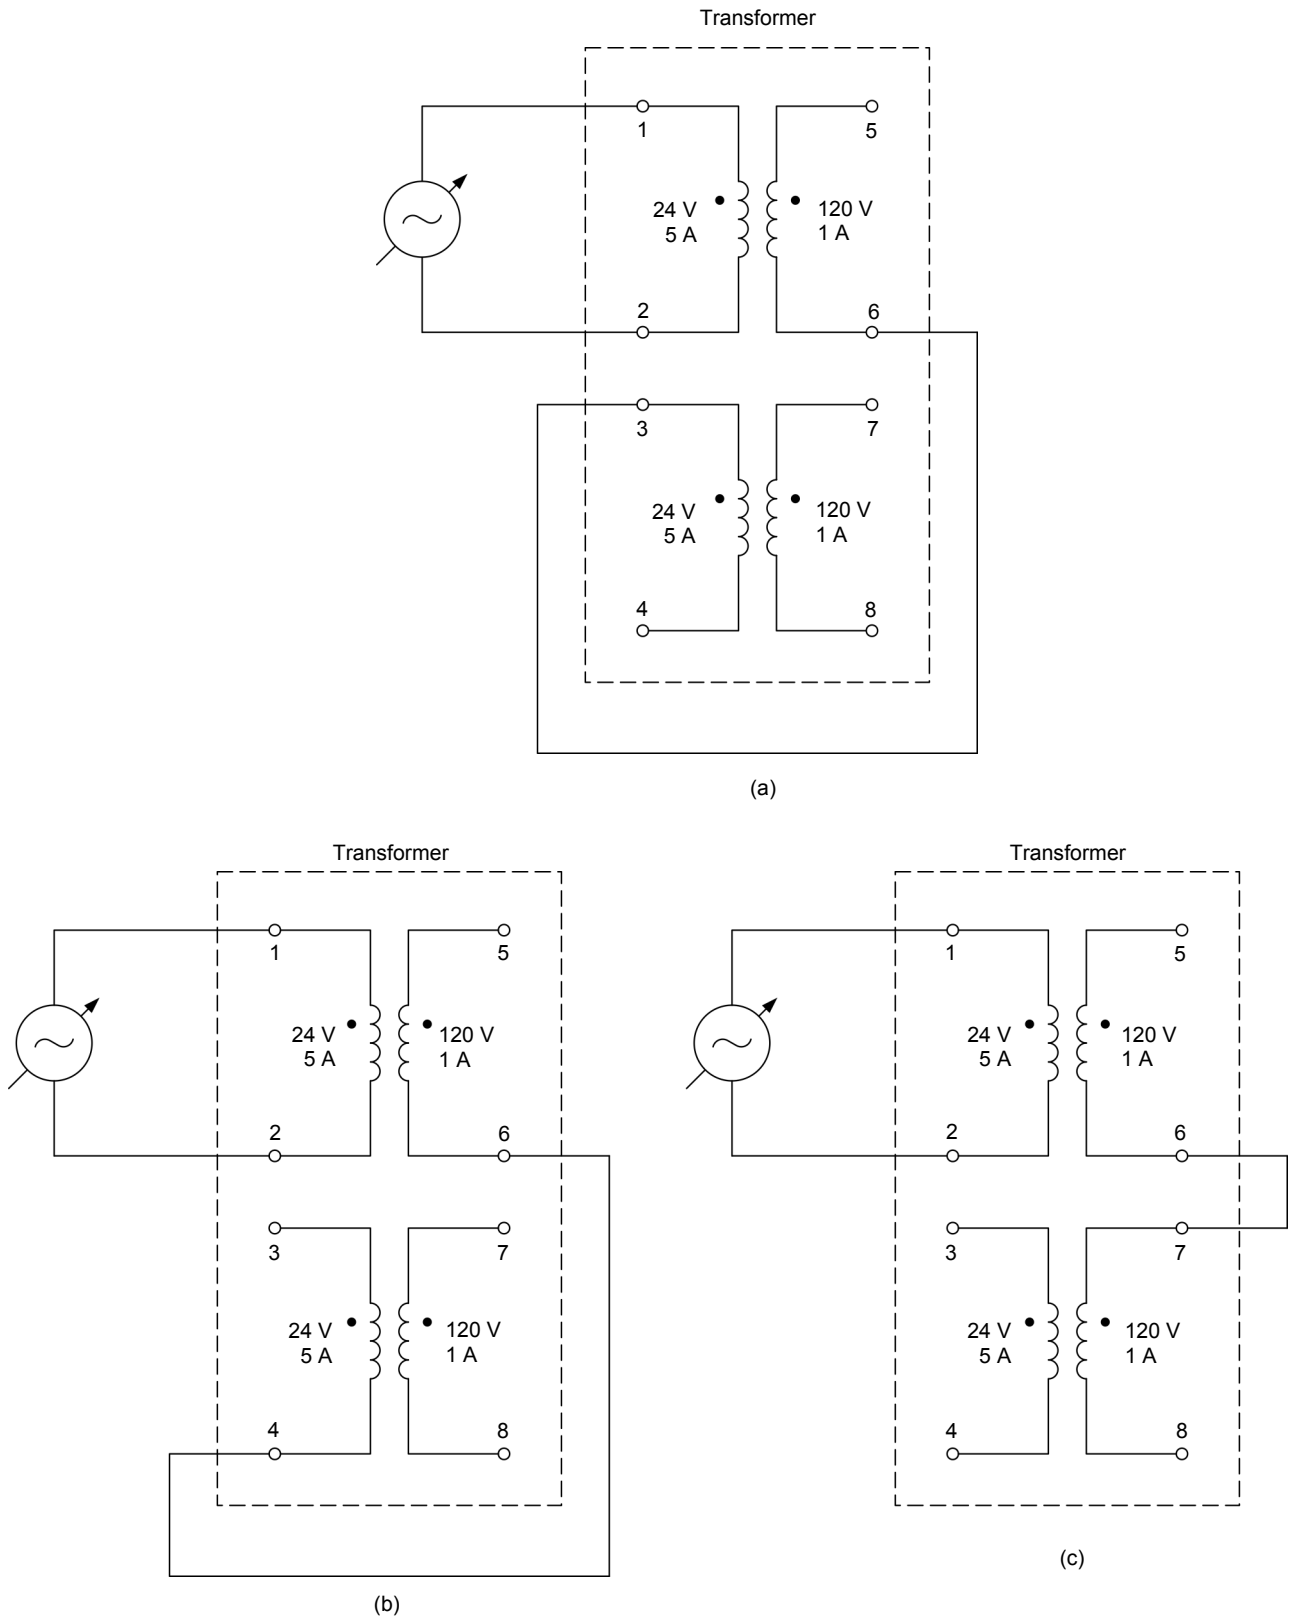

Figure 16. Different series connections of transformer windings.
16. Consider the three transformer winding connections shown in Figure 16. In this figure, winding 1-2 is considered the primary winding of the transformer and is connected to a 24 V ac power source. Determine the voltage that should be induced across each series-connected winding combinations.
In all the transformer connections of Figure 16, the capacity of the transformer is limited to 120 VA, because all power is transferred through primary winding 1-2, which is rated 24 V and 5 A.